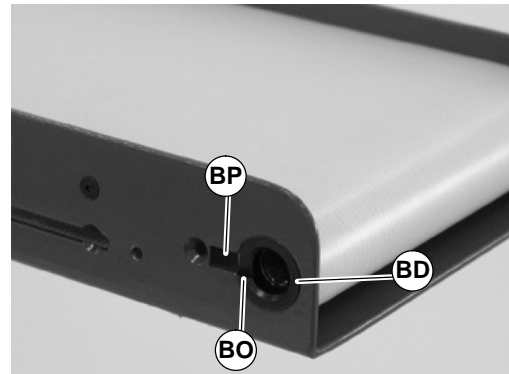

Figure 54
8. Align slot (BO of Figure 54) in retaining sleeve (BD) with slot in conveyor frame (BP).